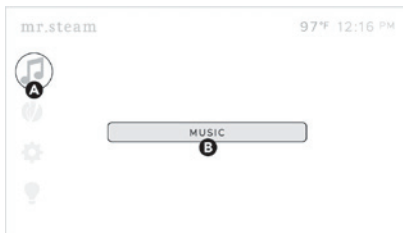

Figure 14
2. To turn on AudioSteam (**Figure 14**), tap the **MUSIC** icon (**A**), and then tap the **MUSIC** button (**B**).